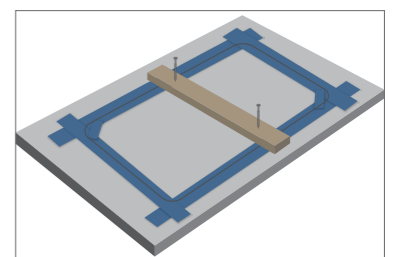

Fig. 5
- Ensure the benchtop is properly supported before you commence cutting the cut-out, making sure the waste part of the benchtop is supported at all times. (see Fig. 5)